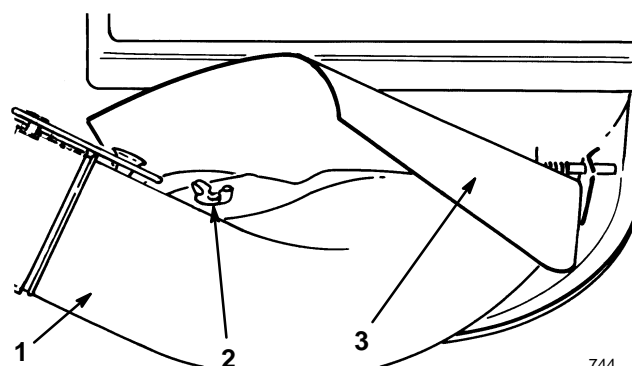

Figure 5
4. Slide the chute under the deflector on the mower, inserting the front of the chute into the V-bracket inside of the mower housing (Fig. 5).
5. Install and secure the rear of the chute onto the mounting pin on the mower housing with a wing nut (Fig. 5).
2. Remove the wing nut securing the chute to the mower and pull the chute out of the mower (Fig. 5).